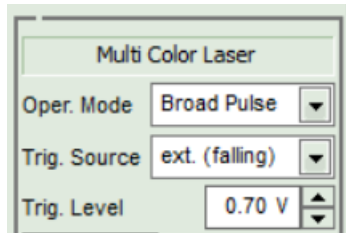

Fig. 11: Additional control elements for external triggering in both narrow and broad pulsed mode.
- The option *ext. (falling)* will trigger upon the falling edge of an electrical pulse, while *ext. (rising)* does the same on the rising edge of such a signal. Both of these options will also spawn an additional spin edit box called *Trig. Level*, where the threshold of the trigger signal can be set in V between -1 V to +1 V (see Fig. 11).
- The option *ext. (falling)* will trigger upon the falling edge of an electrical pulse, while *ext. (rising)* does the same on the rising edge of such a signal. Both of these options will also spawn an additional spin edit box called *Trig. Level*, where the threshold of the trigger signal can be set in V (see Fig. 11).
- **CW:** By choosing this option, the Prima will generate laser light as a continuous wave (CW).